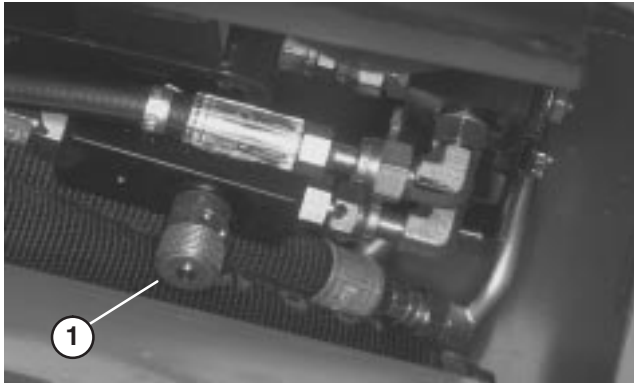

Figure 66
1. Raise hood and locate valve on left rear side of machine (Fig. 66).